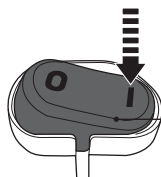

Fig. 20
- > Press the on / off switch (16) to position I to switch the product on (Fig. 20).